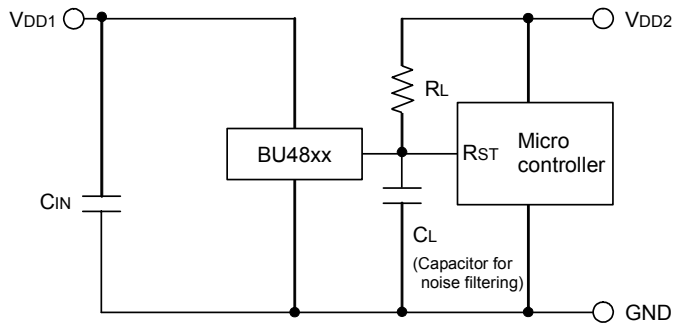

Fig.15 Open Drain Output type
CASE1: The power supply of the microcontroller (VDD2) differs from the power supply of the reset detection (VDD1). Use the Open Drain Output Type (BU48xx series) attached a load resistance (RL) between the output and VDD2. (As shown Fig.15)